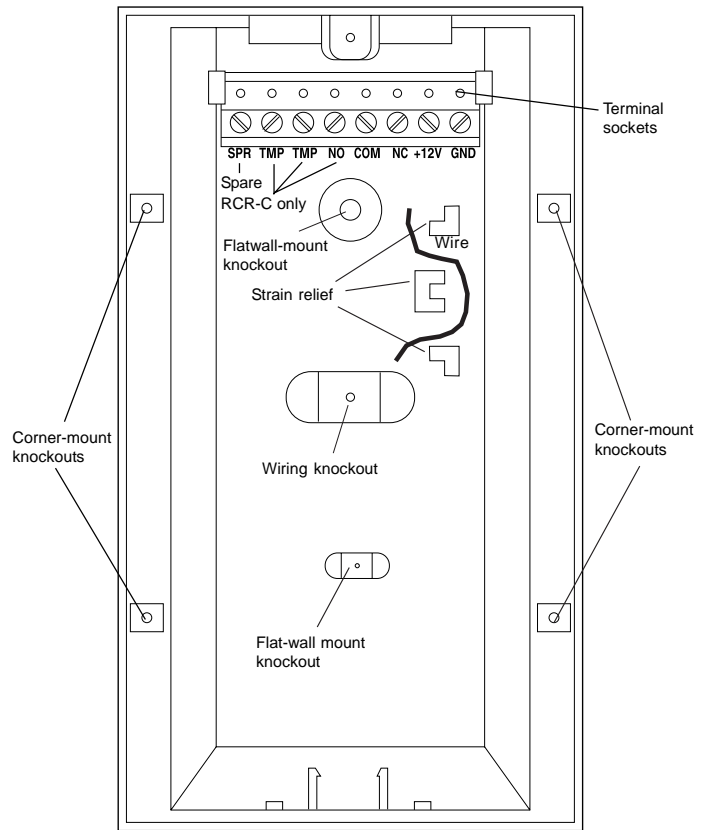

Figure 3. Detector Base
4. Remove the appropriate wiring and mounting knockout holes from the back cover. The detector can be mounted on a flat wall or in a corner. See Figure 3.
7. Run each wire through the strain relief and into the appropriate screw terminals on the base. Tighten the screws. See Figure 3.